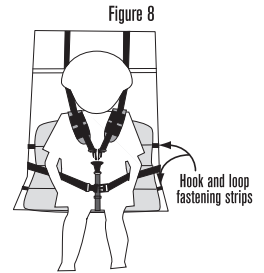

Figure 8
**Padded Seat:** Match, hook and loop fastening strips together (which are sewn in on back side of seat pad and seat). **Figure 8**
3. Fasten and adjust lap belt snugly. **Figure 8**